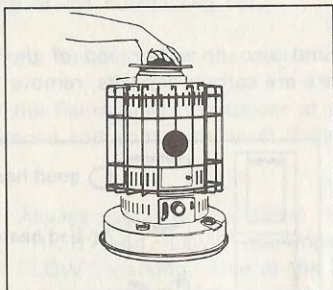

Fig. 17
- (1) Remove handle, lift top plate together with top guard and take out the burner from cabinet (Fig. 17).